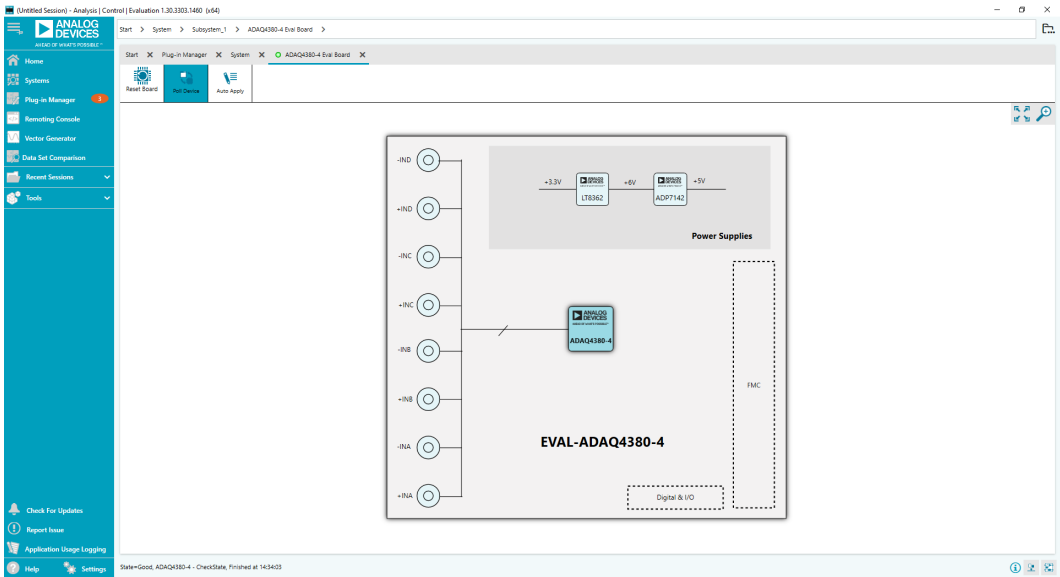

Figure 18. EVAL-ADAQ4380-4 Board View Window
4. Double-click the **ADAQ4380-4 Eval Board**, **ADAQ4370-4 Eval Board**, or **ADAQ4381-4 Eval Board** icon to open the board view window, as shown in Figure 18.